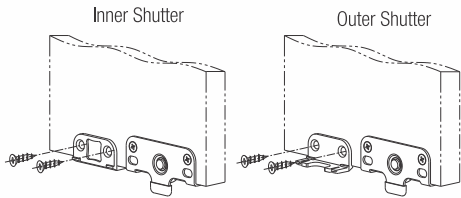

Fig.5
5. and outer shutter as shown in Fig. 5 (For dimension Refer Fig.1).
3. Drill Ø35mm cavity 13mm deep on the bottom of the shutter as shown in Fig. 5 and screw the bottom guide. (Shutter thickness should be ranging from 16mm to 23mm).
6. Hang the shutter into the carriers as shown in Fig. 5.